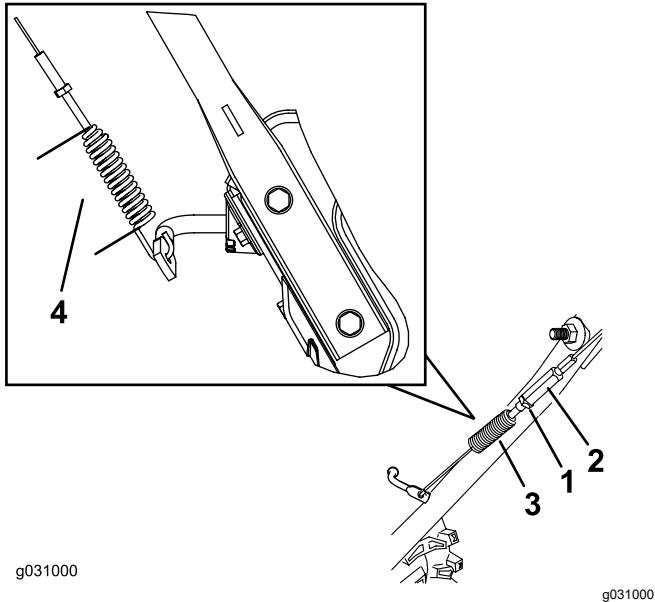

Figure 32
3. Loosen or tighten the turnbuckle to adjust the spring length to 7 cm (2-3/4 inches) as shown in Figure 32.
4. Tighten the jam nut (Figure 32), ensuring that there is slight tension on the cable.